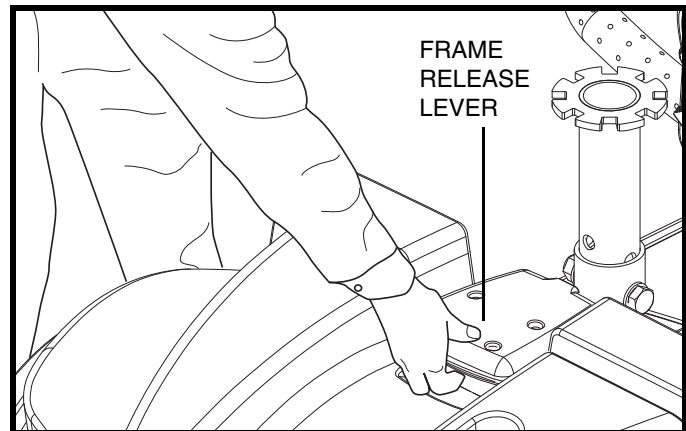

Figure 22. Frame Release Lever
3. Grasp and lift up on the frame release lever. **See figure 22.**